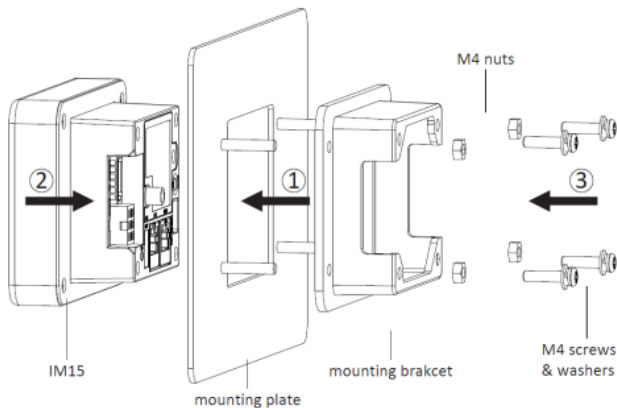

Figure 7: device installation
- The back face of the installation should have four stud bolts corresponding to the mounting points located on mounting bracket. Slide the mounting bracket into place with the orientation shown in figure 7 and then fix it in place with four M4
- Slide the IM15 unit into place with the orientation shown in figure 7. The back portion of the device should rest securely inside the mounting